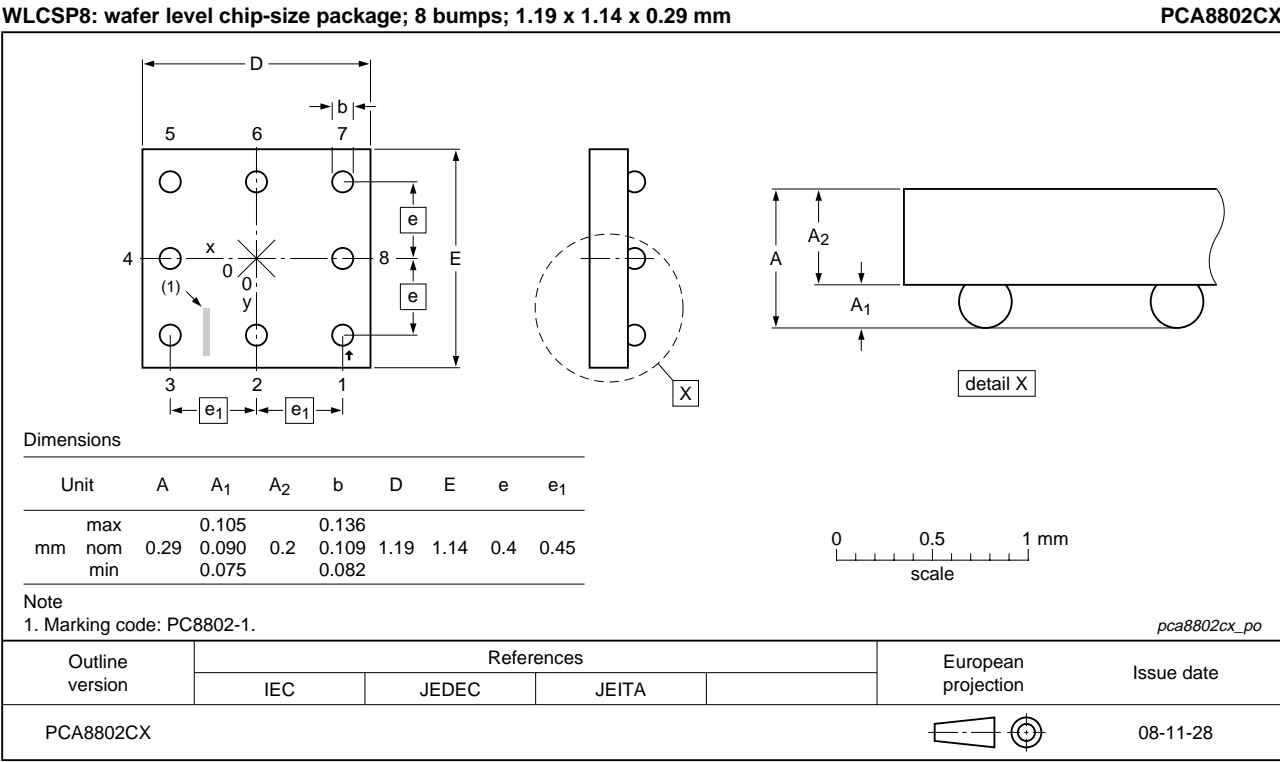
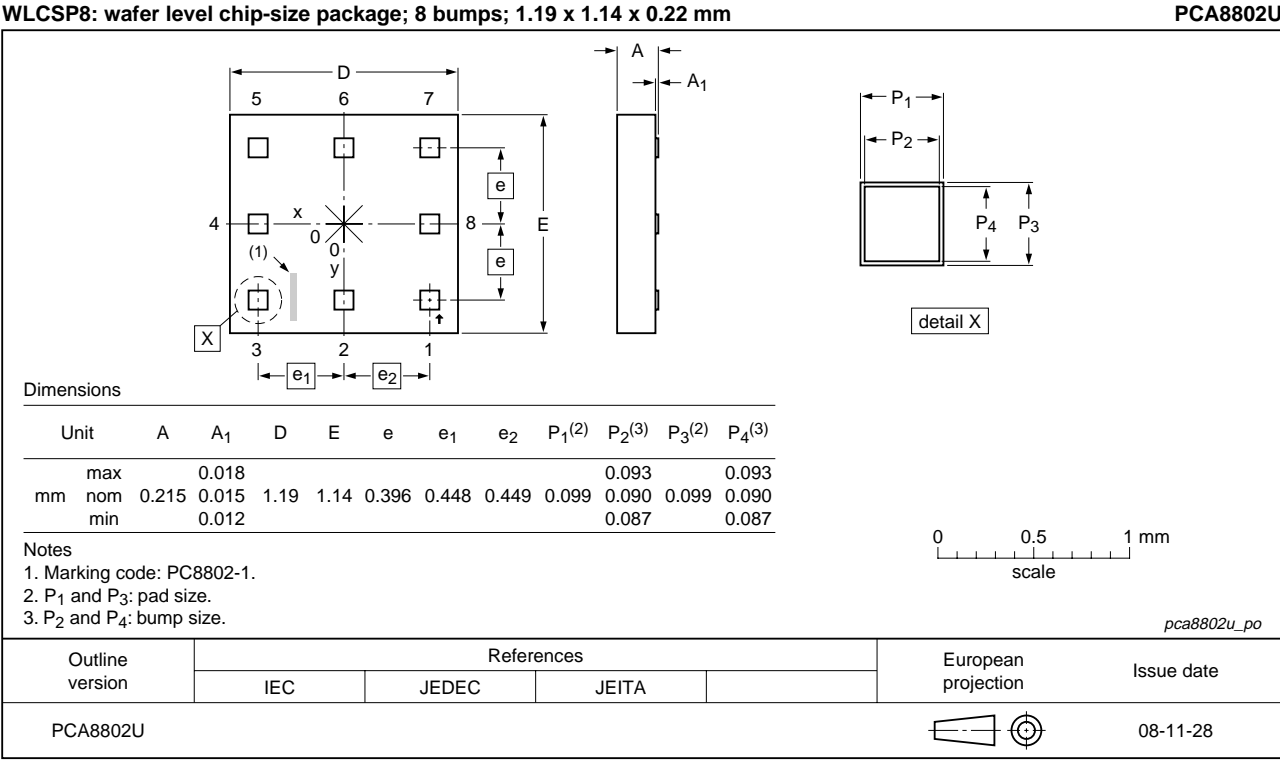

Fig 30. Bare die outline PCA8802CX
Fig 31. Bare die outline PCA8802U
[1] All coordinates are referenced, in μm , to the center of the die (see Figure 30 and Figure 31).
2. It is recommended to use circular landing sites of the same diameter as the solder ball. This will help with self alignment. Solder bump dimensions may be found in Figure 30.